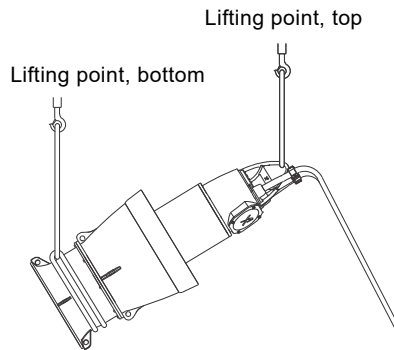

Fig. 1 KPL and KWM: lifting points
- Always lift the pump by its lifting bracket or lifting eyes or by a fork-liftruck. See fig. 1 - 10.